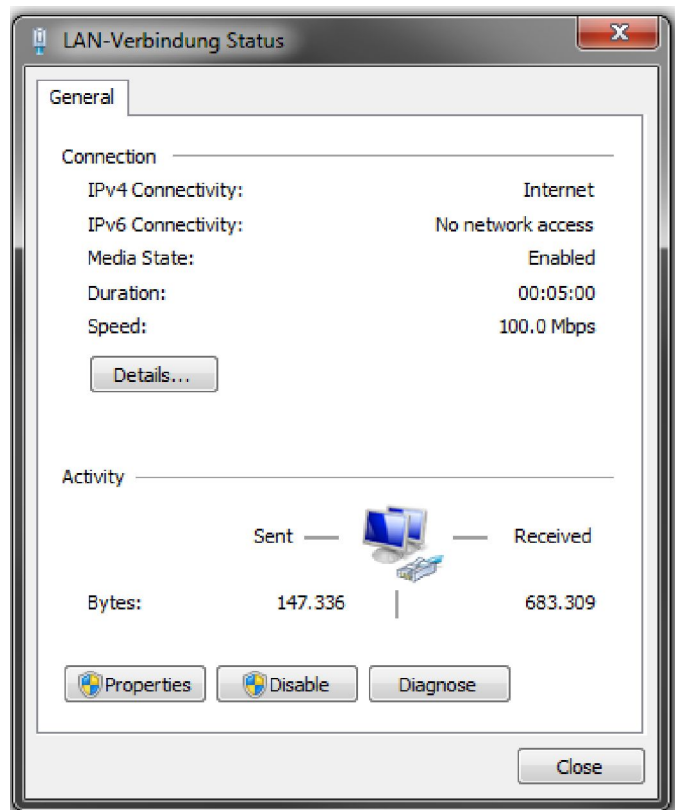

Fig. 44: LAN connection status
5. ▶ Select 'Properties' (Fig. 44).